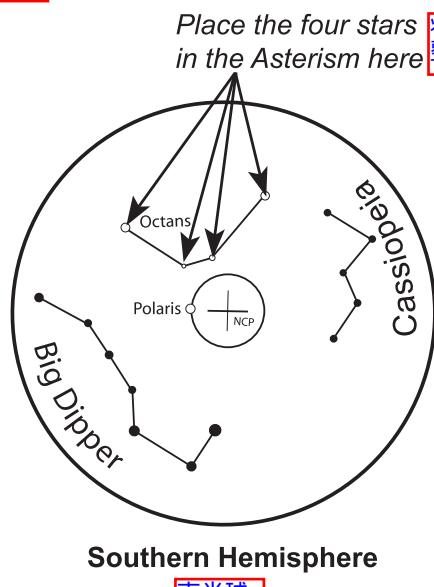

Fig. 3.2a
Once the mount is powered up and the polar scope is illuminated, the pattern in the above figure (Fig. 3.2a) should be visible in the field of view (FOV) of the polar scope. If the image appears blurred, rotate the knurled ring of the polar scope's eyepiece to focus.
- For observing in Southern Hemisphere:** In the FOV of the polar scope, locate the 4 dim stars (Around Magnitude 5 to 6) which form the pattern like the "Octans" drawing in the polar scope (refer to Fig. 3.2a). Loosen the R.A. clutch and rotate the R.A. axis to align the orientation of the "Octans" drawing to the 4 stars. Then use the jack screw and the azimuth adjustment knobs to move the 4 stars to the 4 small circles of the "Octans" drawing.
2. 对于在南半球进行观测的情况：在极轴范围里的视场中，找到像极轴镜中画出的南冕座里那4颗星一样的4颗暗星（星等5~6）（参考图3.2a）。松开赤经轴并转动赤经轴对准画面中南冕座的四颗星。然后用顶紧螺丝和方位角调节旋钮将这4颗星调节移动到画面上南冕座中的4个小圈圈中。
当北极星没有被精确的对准北天极的情况下，我们将会在极轴范围内看到它绕着北天极转动，即在图3.2a中心的圈圈中看到北极星围绕着北天极转动。在进行对准极轴的操作中，必须确定北极星在这个圈圈中的方位。我们可以通过下述三种方法获得该方位：
As the Polaris is not located exactly at the North Celestial Pole, we can see it orbits the North Celestial Pole in a polar scope. The large circle seen in the center of the pattern in Fig. 3.2a is a representation of the Polaris' orbit around the North Celestial Pole. When performing the polar alignment process, it is necessary to determine the orientation of the Polaris on the circle. We can use the following 3 methods to get the orientation:
3. At the end of the initialization of the SynScan hand control, after entering the proper local longitude, latitude, date, time, and daylight-saving time, the SynScan hand controller will display the message: "Polaris Position in P.Scope=HH:MM". Imagine the larger circle in Fig. 3.2a as a clock's face with 12:00 at the top, with the current time pointing to the "HH:MM". The orientation of the hour hand of the clock represents the orientation of the Polaris in the polar scope. Put the Polaris to the same orientation on the large circle to finish the polar alignment.